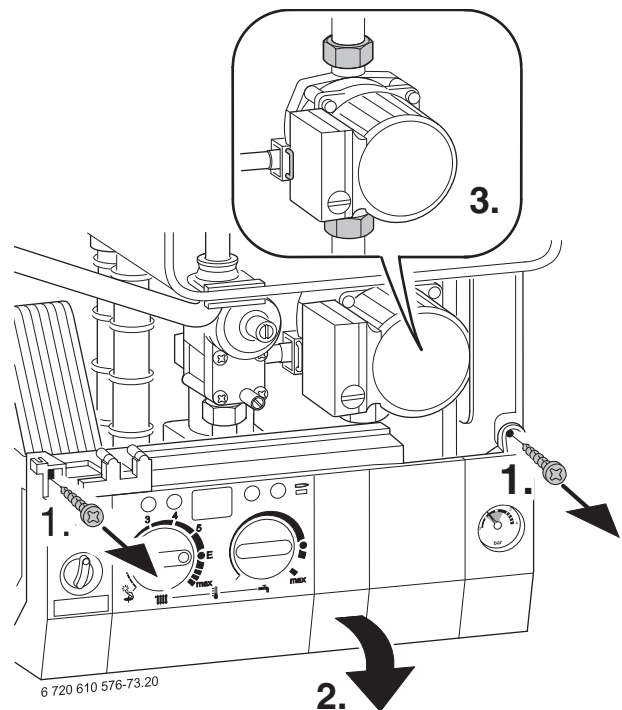

Fig. 63
- ▶ Remove two top fixing screws from the control box. Refer to fig. 63.
- ▶ Remove two switchbox fixing screws (1.). Refer to fig. 63.
- ▶ Unscrew the pump union nuts (3.). Refer to fig. 63.
- ▶ Lower the control panel. Refer to fig. 63.
- ▶ Lower the facia. Refer to fig. 63.